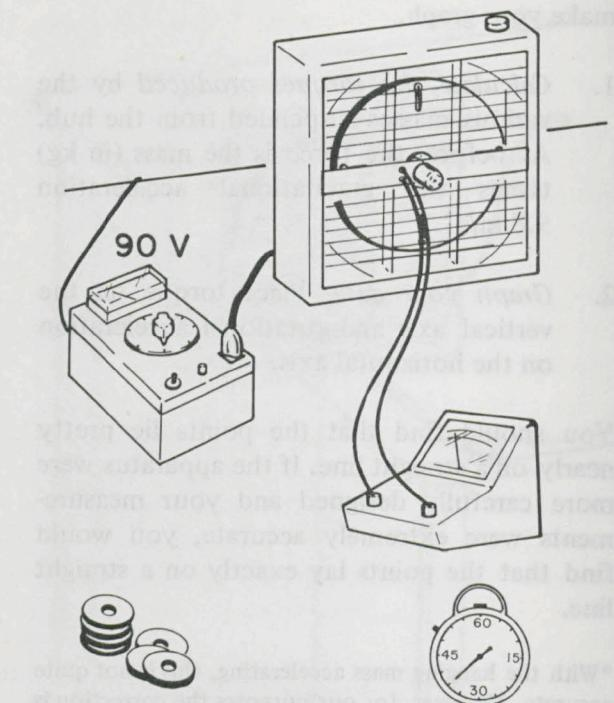

Figure 31. Here you will measure the acceleration produced by the motor as you change the mass of the disk.
1. Set up the fan as shown in Figure 31. The disk is identical to that used in Experiment B-2 (that is, with no masses attached).